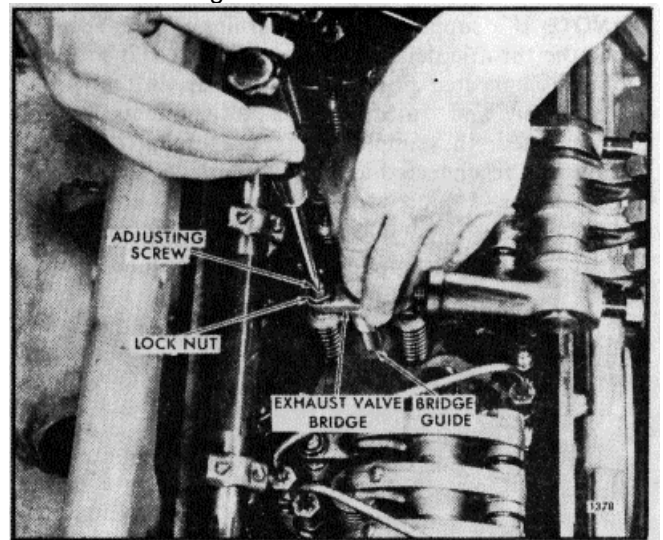

Fig. 1. - Valve Bridge Adjustment
2. Remove the exhaust valve bridge (Fig. 1).
5. While firmly pressing straight down on the pallet surface of the bridge, turn the adjusting screw clockwise until it just touches the valve stem. Then, turn the screw an additional 1/8 to 1/4 turn clockwise and tighten the locknut finger tight (Fig. 1).